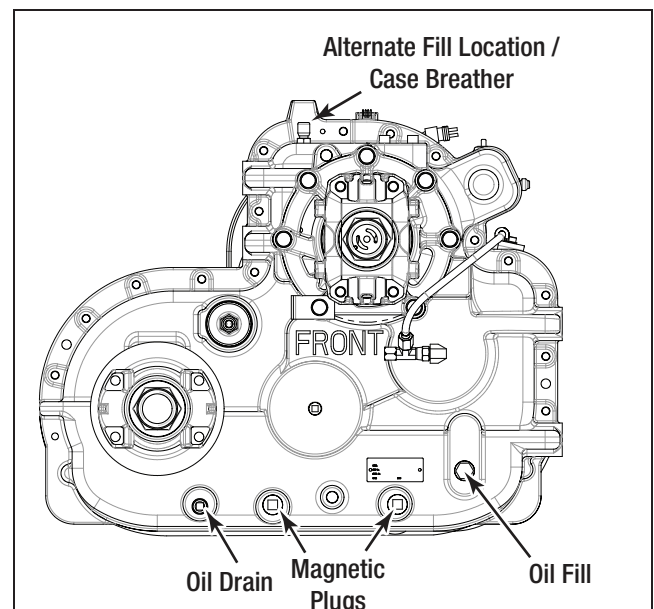

Figure 8
The oil fill is located on the front of the transfer case. The breather can be used as an alternate oil fill location. Figure 8.
2. Add the OEM recommended cooling system oil volume to the transfer case through the alternate fill location/case breather as shown in Figure 8.